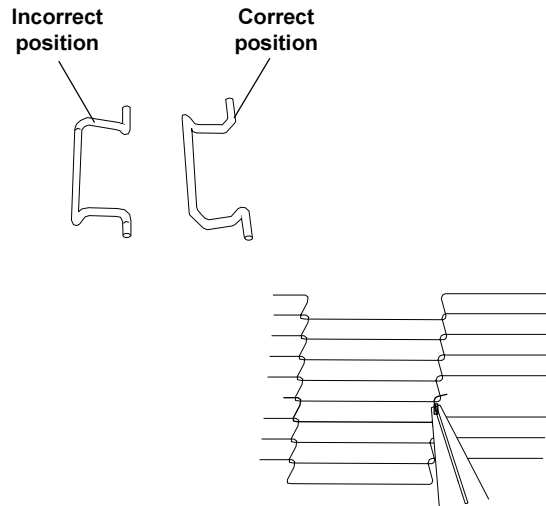

Figure 2-27
- Connect the inside master links. Check that the links are oriented as shown in Figure 2-27.